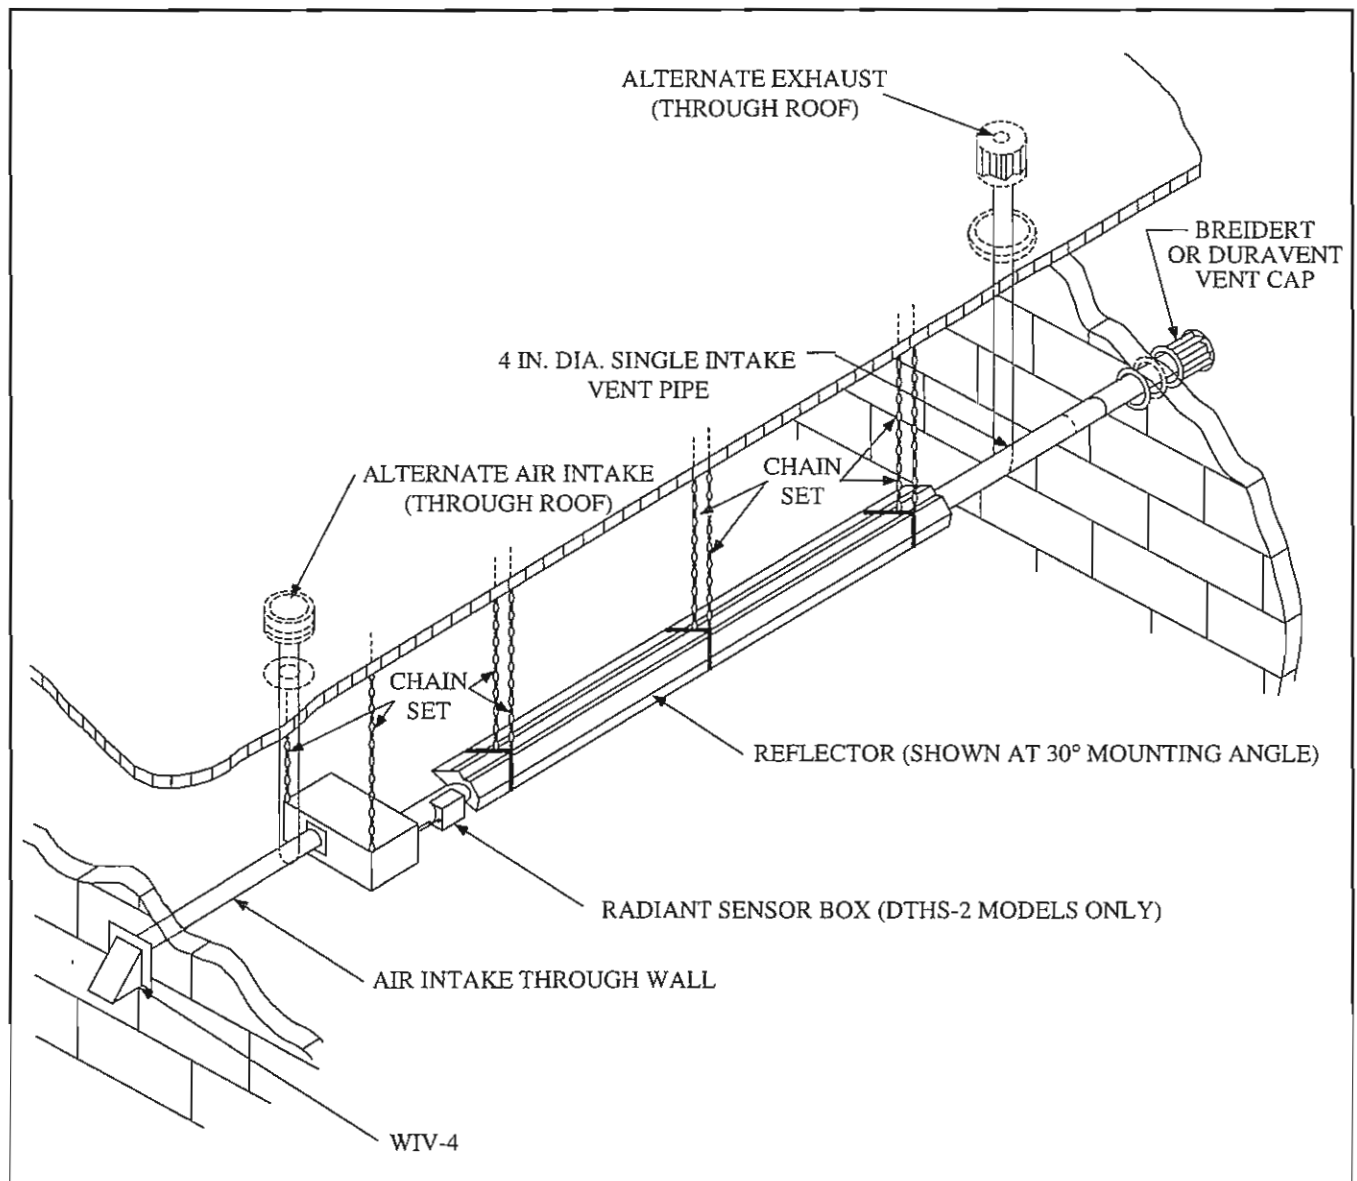

Figure 1-4
3. Make sure the finished installation will conform to the design requirements listed in the Clearance-To-Combustibles Chart and the figure shown on page iv, and Figures 1-4 and 1-5.